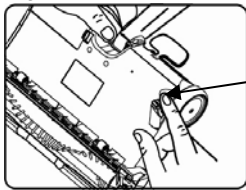

Fig. 16
11. To replace the squeegee, follow instructions above for removing the gear box and slide the squeegee out from left to right. (Fig. 16)